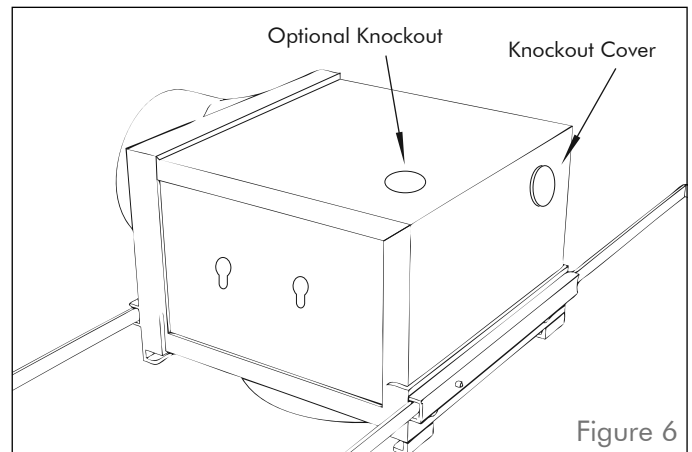

Figure 6
1. Based on the bathroom layout and fixtures, plan the location of the expansion vent grilles (2) for the most effective ventilation.
2. Punch out the keyhole knockouts (if using) and the electrical knockout if needed (see figure 6).